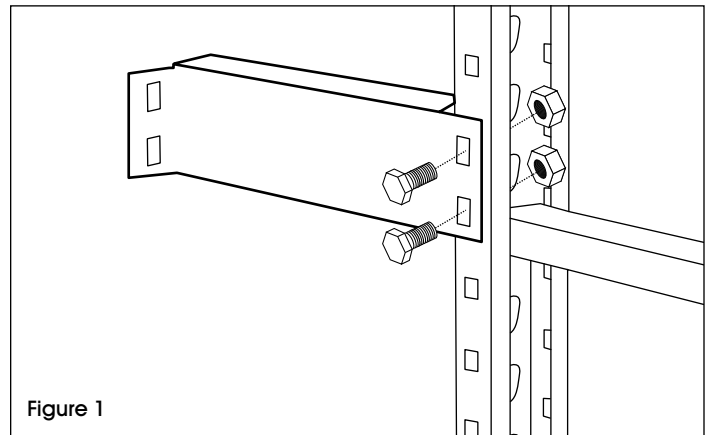

Figure 1
1. Attach wall brackets to pallet rack upright using nuts and bolts. (See Figure 1)